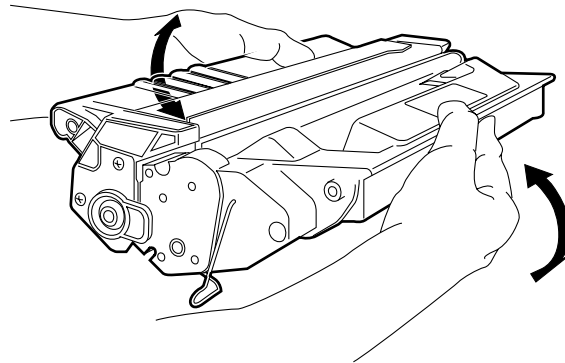

Figure 12-401
- a. When setting the cartridge in the copier, or when blank areas occur in the copy image because toner runs out during copying, hold the cartridge level, as shown in figure 12-401, and shake it several times at about 90° in both directions. After the toner inside the cartridge has been leveled evenly, set the cartridge in the copier. If the cartridge is shaken in a manner other than that described above, there is the danger that toner may leak from the developing assembly and cleaning assembly.